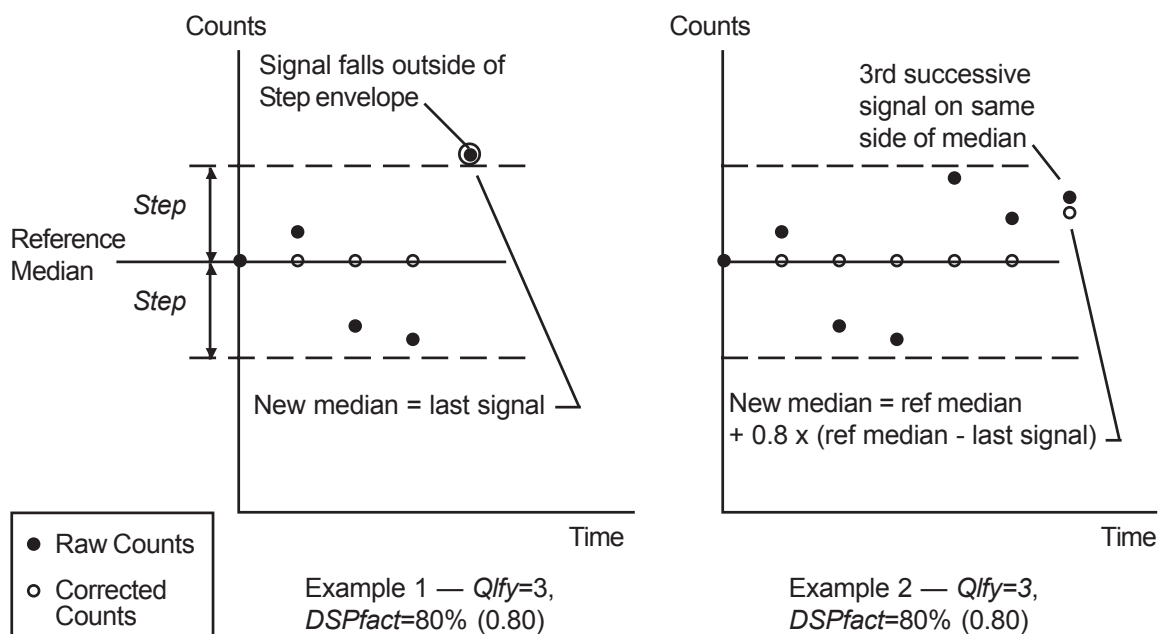

Figure 7-2. Filter Function Examples
The ADC converter digitizes the signal coming from a sensor. The Weigh II picks the first signal as a reference median; this is the value that is used in calculating the displayed weight for vessel monitoring. As shown in Figure 7-2, the Weigh II then compares following signals to the reference median, and recalculates the reference median when either of the following happen:
*Step* is a window of equal counts above and below the reference median. As shown in Figure 7-2, example 1, if a large signal change is detected that falls outside of the window, the Weigh II immediately moves the location of the reference median to that point. This allows the Weigh II to adjust quickly to rapid material movement in the vessel.
*Qlfy* is the triggering number of successive signals above or below the median signal value, but within the *Step* window. In example 2 shown in Figure 7-2, *Qlfy* is 3. When the third successive signal above the median value (but within the *Step* window) is detected, the Weigh II moves the location of the median value to that point (or a percentage of the distance from the old median as determined by *DSPfact*). This allows the Weigh II to respond to definite trends in weight changes.
*DSPfact* determines the magnitude of change from the old reference median to the new reference median, for change triggered by the *Qlfy* parameter. In example 2 in Figure 7-2, the Weigh II moves the reference median 80% of the distance from the old median to the last signal (which triggered the change), based on a *DSPfact* of 80%. A value of 100% sets the new median to the last signal value; a value of 50% sets the new median halfway between the old median and the last signal value. Note that *DSPfact* does not affect the change caused by a signal falling outside of the *Step* window, as shown in example 1 in Figure 7-2.